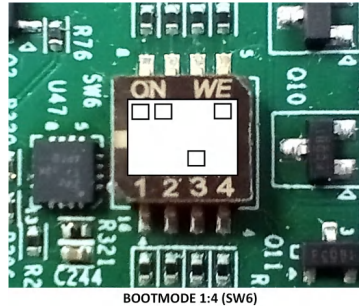

Figure 5-1. NO BOOTMODE Switch
- a. Use Figure 5-1 for reference.